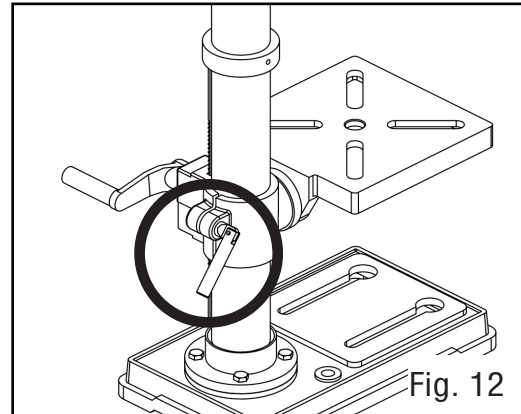

Fig. 12
1. Loosen the table locking handle and turn the crank handle until the table is at the desired height (Fig. 12).